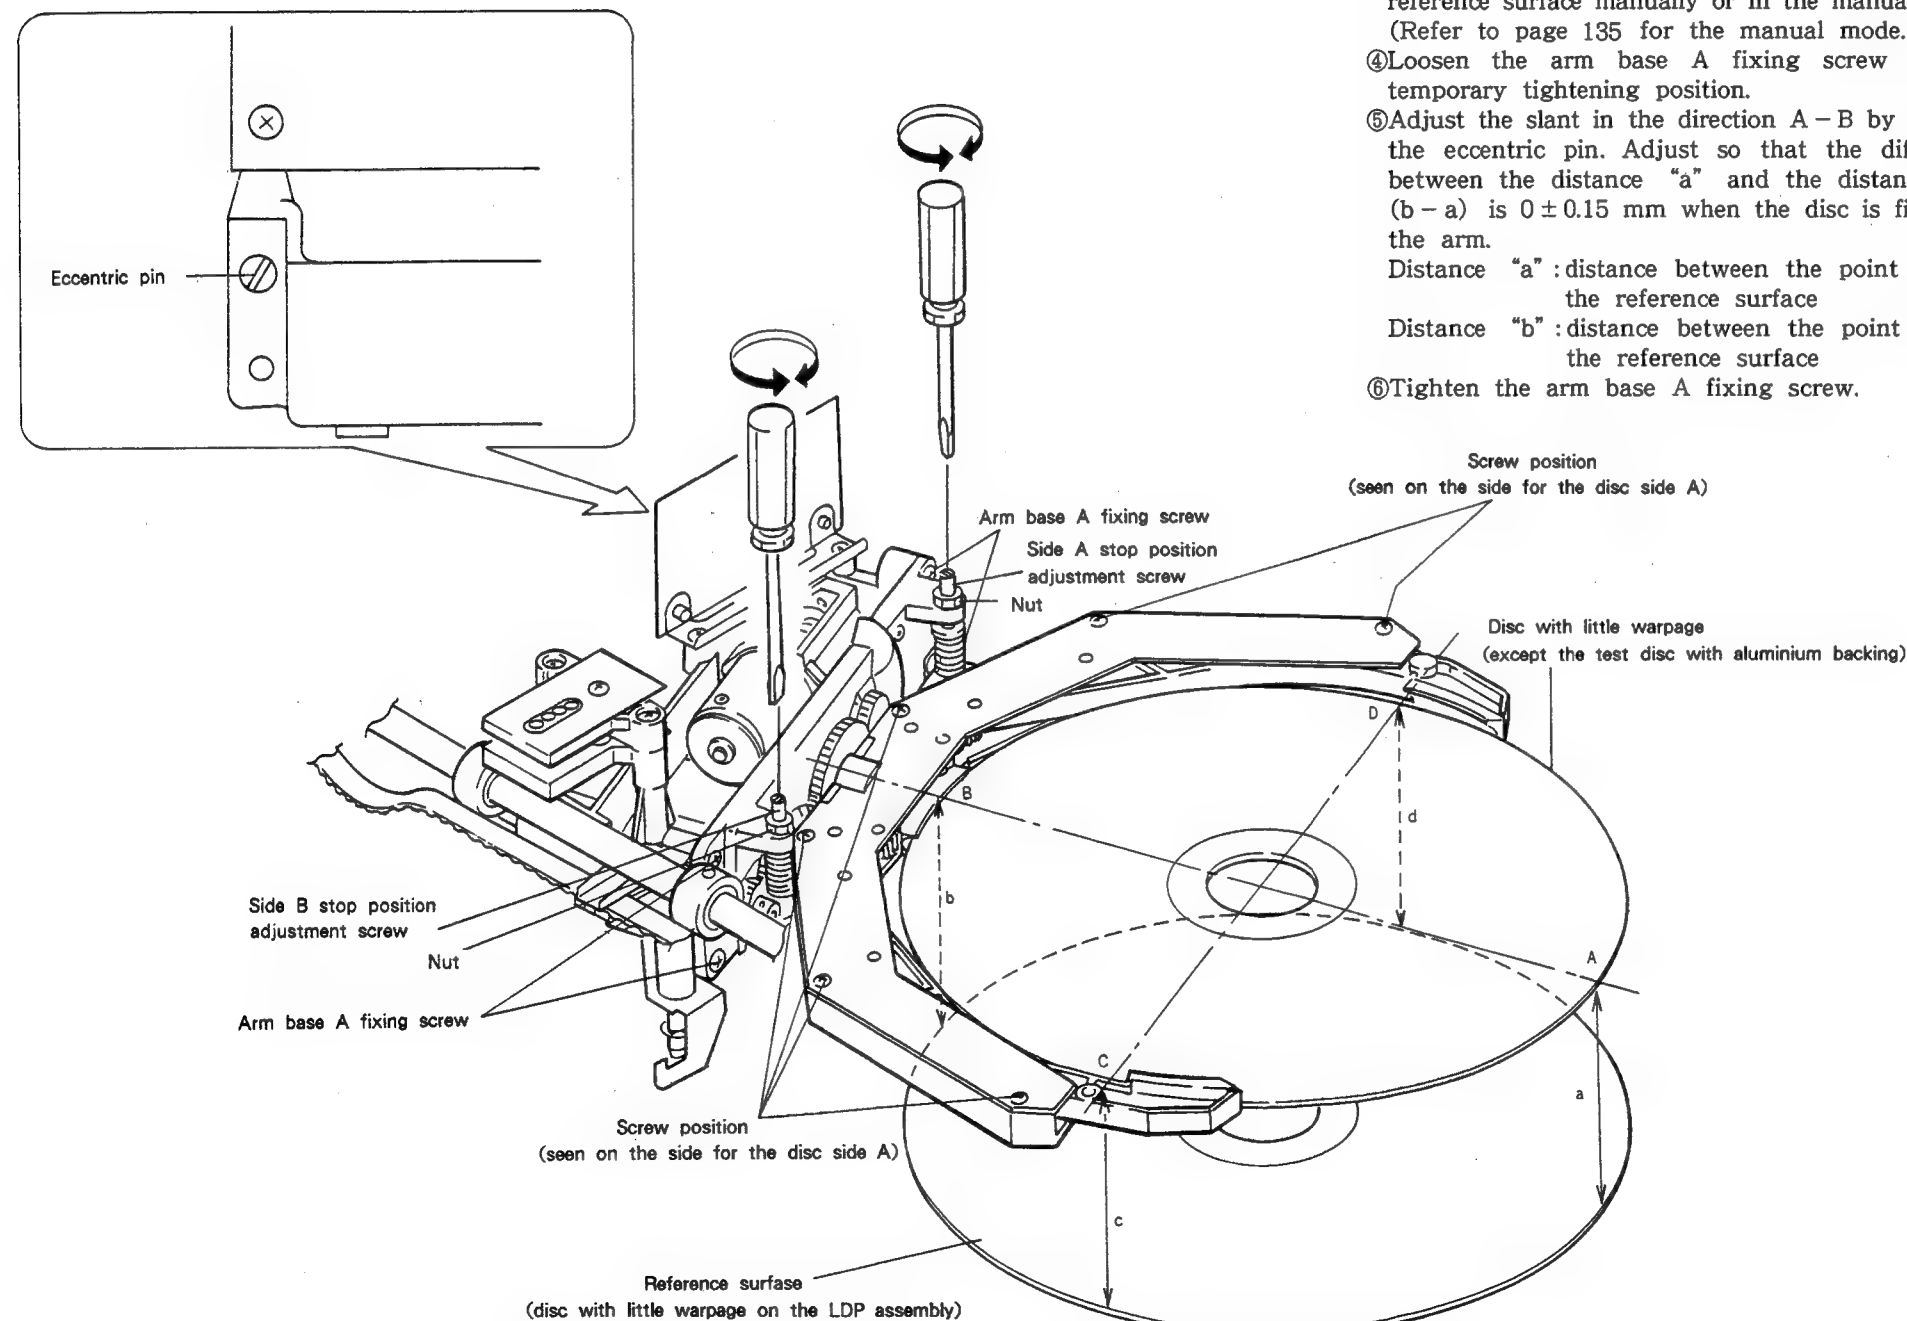

Fig. 3-5-9
3.5.5.1 Adjustment of the arm horizontal position (direction A - B in Fig. 3-5-9)
- ① Place a disc with little warpage (such as a test disc) on the LDP assembly and fix it with the clasper. The surface upper side of the disc is regarded as the reference surface. (Or, remove the LDP assembly and place a flat plate on the three bosses for the LDP assembly attachment. The surface of the plate is regarded as the reference surface.)
- ② Place a disc with little warpage (except a test disc with aluminium backing since it is heavier than a normal disc) so that the disc is fixed by the arm.
- ③ Move the arm a few centimeters above the reference surface manually or in the manual mode. (Refer to page 135 for the manual mode.)
- ④ Loosen the arm base A fixing screw to the temporary tightening position.
- ⑤ Adjust the slant in the direction A - B by turning the eccentric pin. Adjust so that the difference between the distance "a" and the distance "b" ($b - a$) is 0 ± 0.15 mm when the disc is fixed by the arm.
- ⑥ Tighten the arm base A fixing screw.
3.5.5.2 Adjustment of the reverse rotation stop position (direction C - D in Fig. 3-5-9)
- ⑦ Prepare as described in steps ① and ② in the adjustment of the arm horizontal position. Move the arm approximately 15cm above the reference surface.
- ⑧ Set the arm so that the side for the disc side A faces upward. (Screw positions on the arm are seen.)
- ⑨ Loosen the nut of the side A stop position adjustment screw (the right one when seen from the arm side).
- ⑩ Adjust the slant in the direction C - D by turning the side A stop position adjustment screw. Adjust so that the difference between the distance "c" and the distance "d" ($d - c$) is 0 ± 0.15 mm when the disc is fixed by the arm.